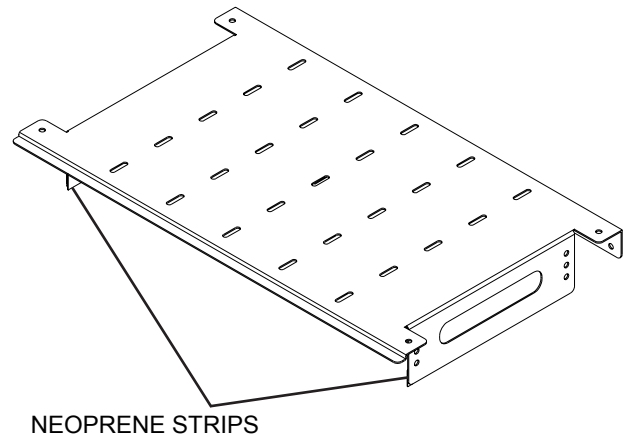

Figure 7.3a – Top Cover
- Top Cover: inside bottom of flanges, see Figure 7.3a.